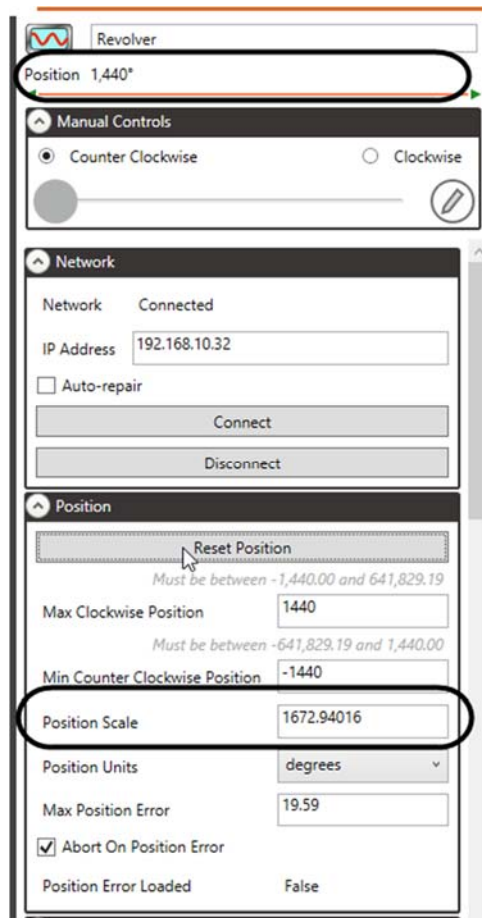

Figure 131
8. Enter the **Position Scale** and change the **Position Units** to **degrees**. Notice that the **Position** value updates to 1440 degrees (Figure 131).